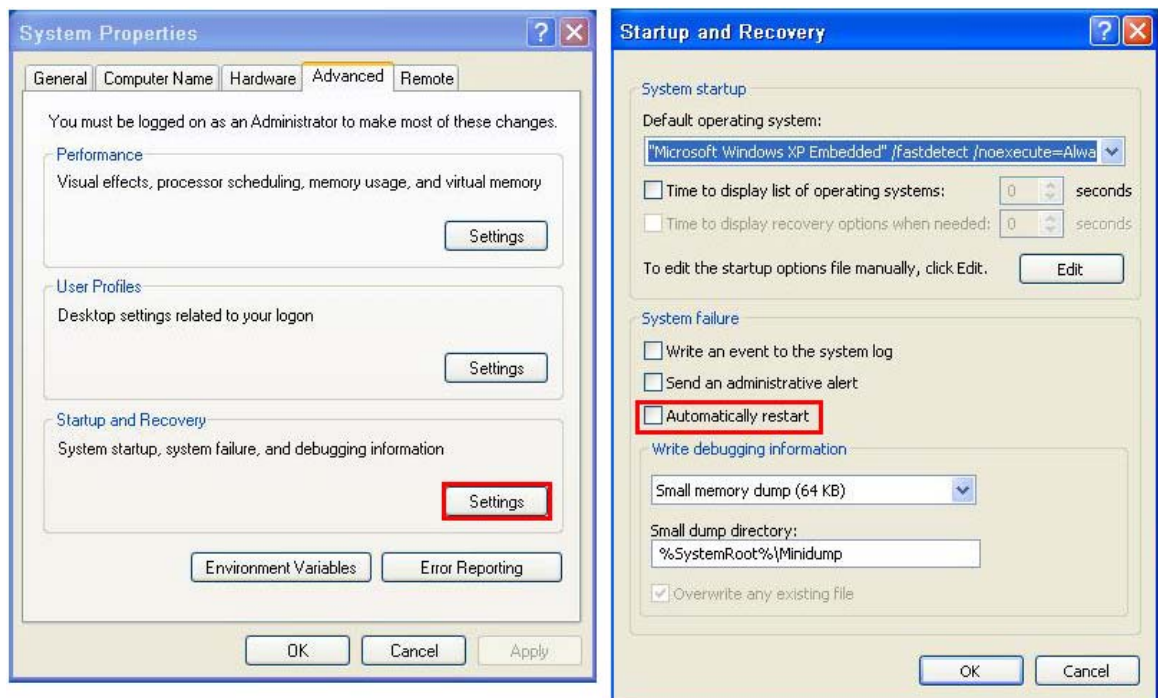

Figure B-23: Disable Automatically Restart
- Step 3:** **Disable the automatically restart function before creating the factory default image.** Go to: My Computer → Properties → Advanced. Click the Settings button of Startup and Recovery. Deselect "Automatically restart". Click OK to save the settings and exit. (See Figure B-23)